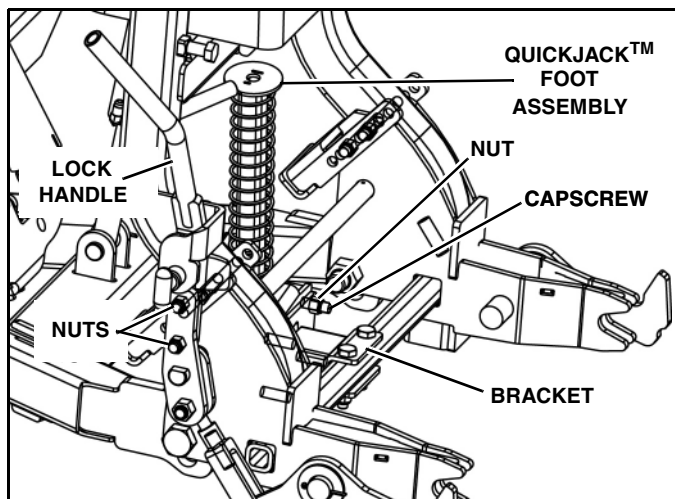

Figure 1-26
21. Install QuickJack™ foot assembly on bracket using four 1/2"-13 x 1-1/2" hex head cap screws and four 1/2"-13 lock nuts. (See Figure 1-26).
22. Install foot assembly with bracket to Lower Light Lift Bar using two 1/2"-13 x 3" hex head cap screws and two 1/2"-13 lock nuts. (See Figure 1-26).
23. Position the lock handle on the Lower Light Lift Bar linkage and secure with two 1/2"-13 x 1-3/4" cap screws and two 1/2"-13 lock nuts. (See Figure 1-26).